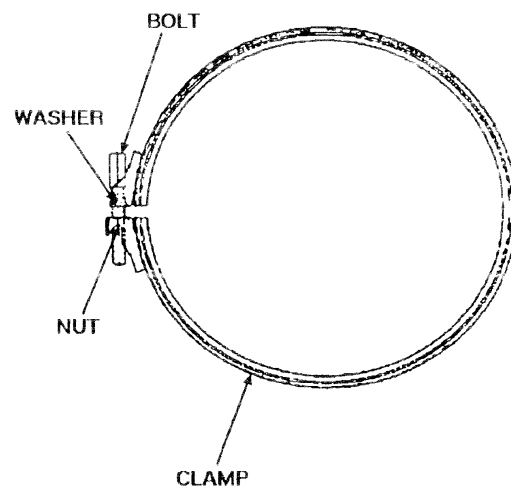

FIGURE 3-18
B. Until the new clamp is available, you can use a substitute Bolt, Nut and Washer as a field expediency. But, please note, the head height on the existing bolt does allow the operator or crew filter access with the adjustable wrench provided in the BII. A substitute bolt will require the use of a socket wrench. Use of a substitute fastener is not mandatory, but used at the commanders discretion, and should only be used until the first chance to replace the clamp. (see figure 3-18)